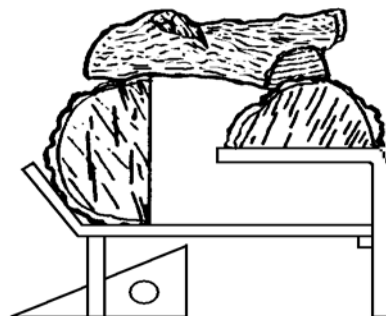

Figure 4
(See Figure 4.)
4. Attach the leads from the thermopile (pilot generator) to the terminals labeled "TP" on the valve. **(Fig.4)**
1. To install a wall switch mount a standard 3" X 2" electrical box in wall near the fireplace. Run thermostat wire (18-gauge wire) from the electrical box to the millivolt valve. At the valve, connect the lead wires to the two outside terminals labeled "TH". On the switch, connect a lead wire to each terminal. **(Fig.4)**